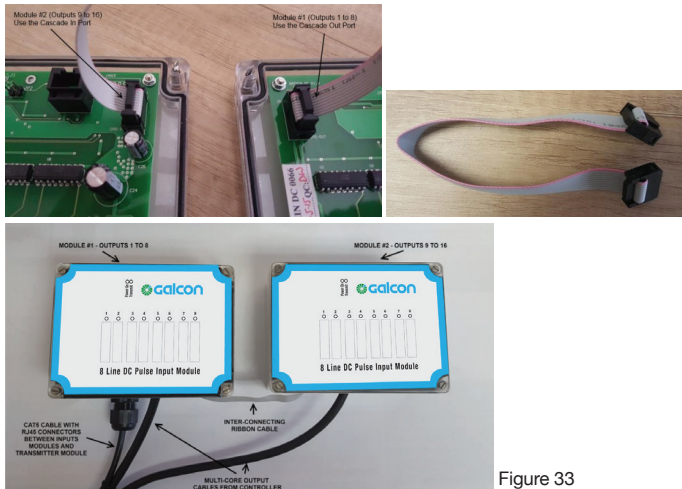

Figure 33
- Using a 10 way (one to one) ribbon cable fitted with 10 way locating headers plugs (as seen in figure 33), connect one end of this cable to the CAS OUT port on the module that will control outputs 1 to 8 and the other end of the cable to CAS IN on the module that will control outputs 9 to 16 as seen below.